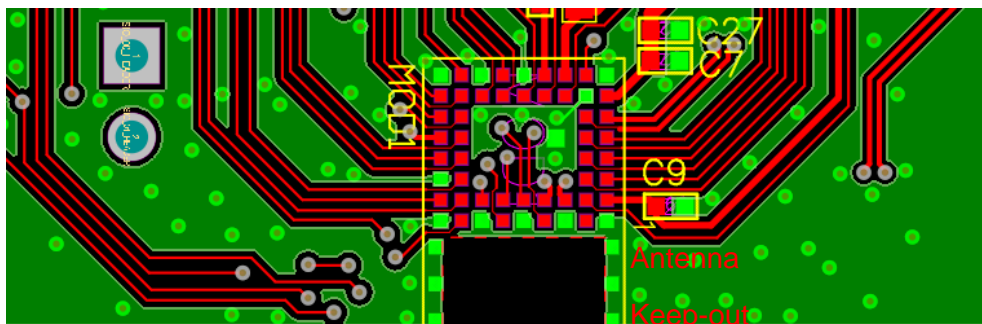

Figure 12: Chip Antenna keep-out area (shown in red), corner of the BL653 μ development board for the 453-00059 module.
- The BL653 μ development board has the 453-00059 module on the edge of the board (not in the corner). The antenna keep-out area is defined by the Laird Connectivity internal BL653 μ development board which was used for module development and antenna performance evaluation is shown in Figure 12, where the antenna keep-out area is ~5 mm wide, 3 mm long; with PCB dielectric (no copper) height ~1 mm sitting under the 453-00059 chip antenna.
- Host PCB land pattern and antenna keep-out for the BL653 μ applies when the 453-00059 is placed in the edge of the host PCB preferably in the edge center. Figure 12 shows an example.